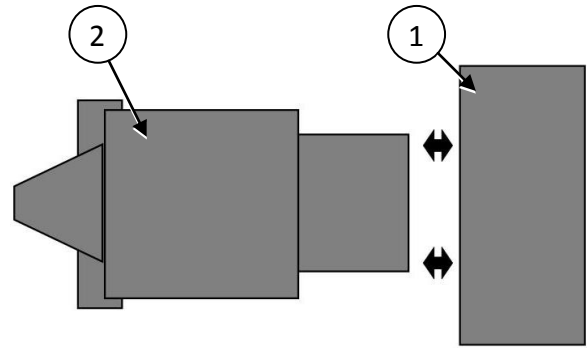

Fig. 8.1
Ensure that the Stacking Accumulator, (1), is mounted squarely to the rear of the baler (2) (Figure 8.1). Begin installation procedures with Stacking Accumulator set on a firm, level surface behind the baler. The deck should be evenly spaced behind the baler.